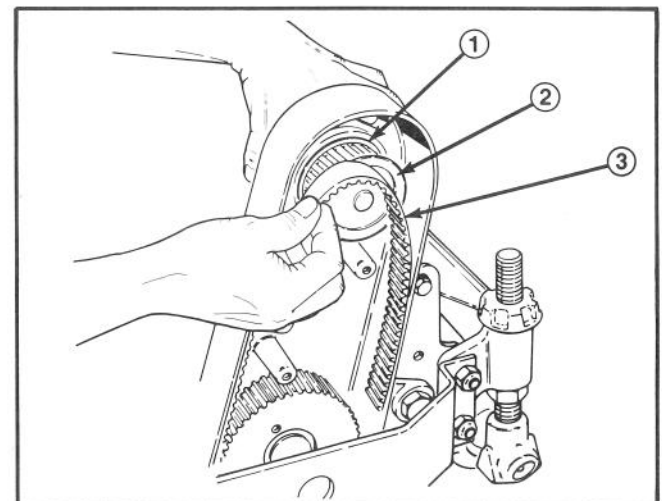

Figure 12
Note: Check to see that motor pulley set screws are tight on motor shaft before installing motor onto cutting unit (Fig. 12).
- C. Insert the reel drive motor pulley through the housing and slip the cutting unit drive belt over the pulley (Fig. 12).